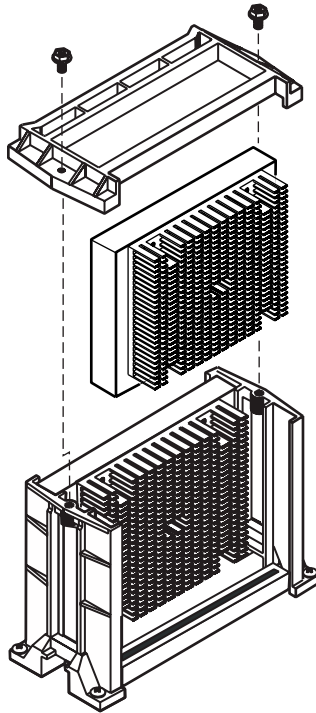

Figure 13: Installing the New Processor
4. Align the new Pentium II SEC cartridge in the Slot 2 supports and press it firmly into place until fully seated. See Figure 13.